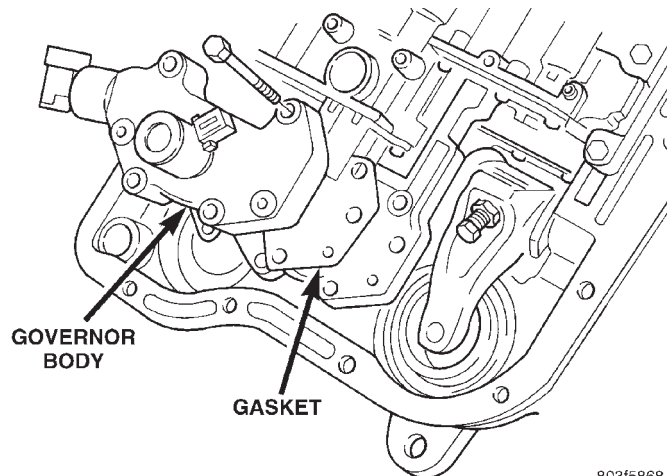

Fig. 63 Governor Body And Gasket
(3) Remove retainer plate, governor body and gasket from transfer plate (Fig. 63).